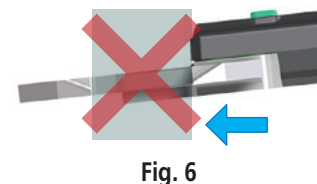

Fig. 6
2. Avoid cosine error by rocking and/or rotating the caliper to ensure measurement faces are contacting completely and are not tilted. (**Fig. 6**)